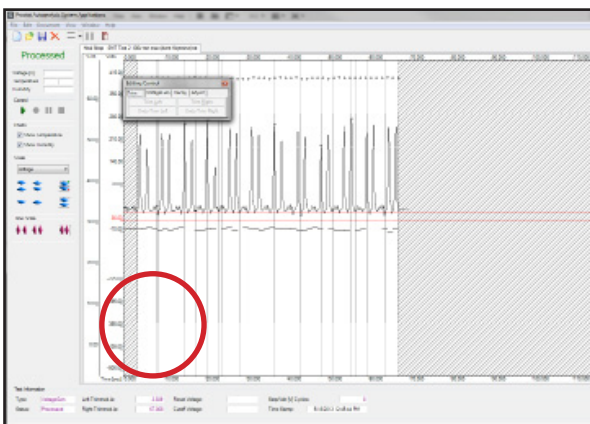

Figure 30: Trim Data Trace to Identify Range of Minimum & Maximum Peaks to be used for Analysis and reporting.
1. Trim unwanted data from beginning or ending traces by using the **Edit** menu and click on **Trimming....** A floating **Edit** window will open (Figure 30, below).
- a. Position the Left trim point to define a starting point for the analysis. It should represent an initial Minimum or Maximum value. Referring to Figure 30, the Left trim cursor is placed **before a Minimum** peak as shown by the circle.
- b. Position the Right trim point to define the ending point of the analysis. It should represent a final Minimum or Maximum value. Referring to Figure 30, the Right trim cursor is placed just after a Maximum peak as shown by the circle at the right of the figure.